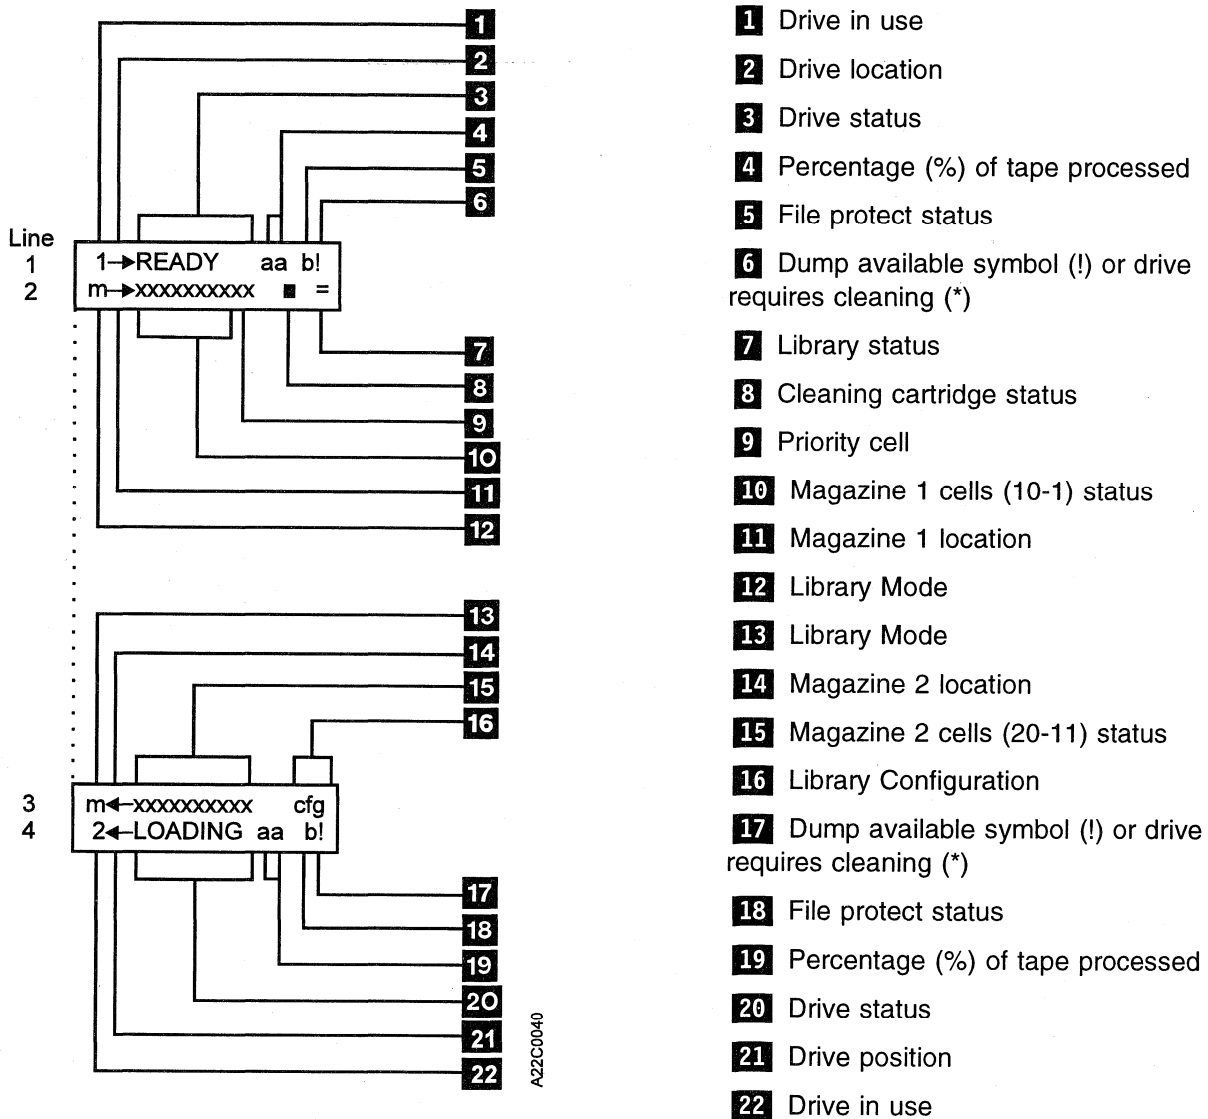

Figure 86. Status Screen
10. The Magstar MP will reset and the status screen will be displayed. The new library configuration will be displayed on line 3 of the operator panel display. (See **16** in Figure 86 on page 137).
The status screen (Figure 86 ) provides a view of the current operational status of the library and drive. This screen is the normal default screen. If some other screen is the current display and you want to check status, select SHOW STATUS from the Options Menu.